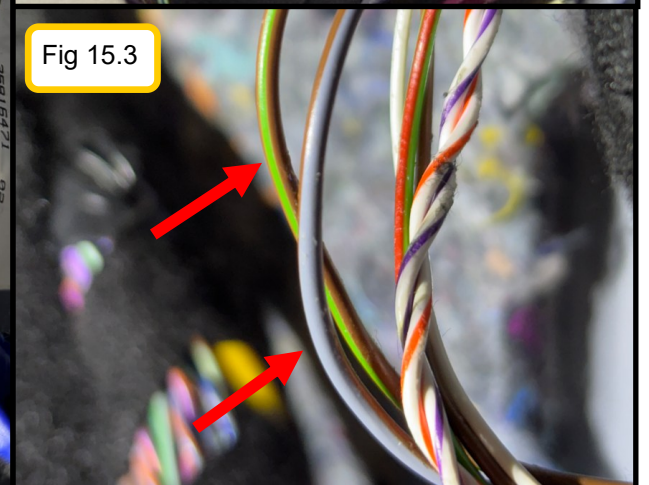

Fig 15.3
4. CAREFULLY cut away the tape wrapped around the OEM wires. (Fig 15.3)